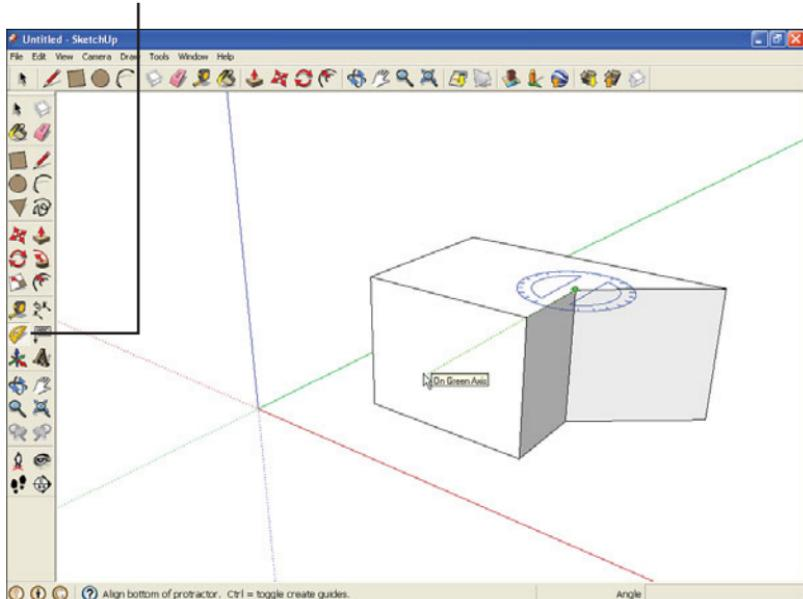

FIGURE 10.11 The Protractor tool in use.
7. Pull the right-most edge of the cube out until your object looks like Figure 10.11.
11. Click the vertex of the angle you plan to measure. A protractor appears at the location you've clicked, as shown in Figure 10.11.